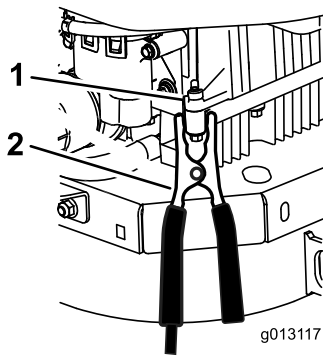

Figure 63
6. **Make the final connection on the engine block of the stalled vehicle (NOT to the negative battery post) away from the battery and stand back (Figure 63).**